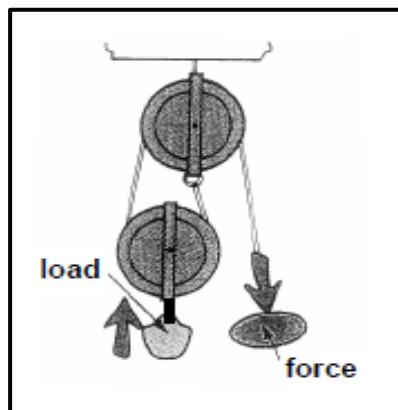

FIGURE 4.12
4.12 The pulley system shown in FIGURE 4.12 below is a ...